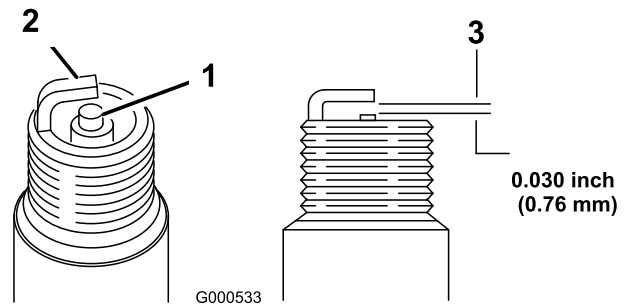

Figure 25
5. Set the gap on the plug to 0.030 in. (0.76 mm) (Figure 25).